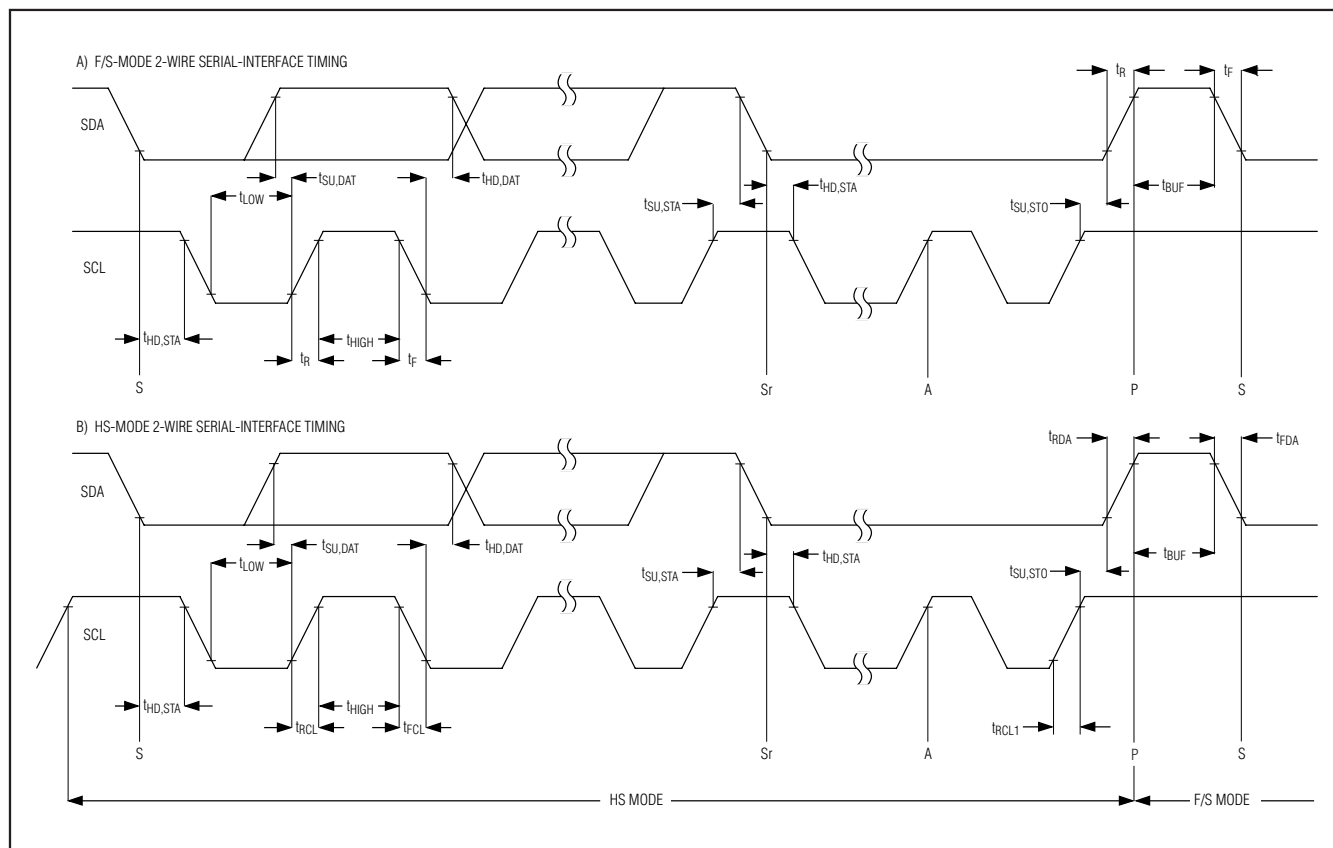

Figure 1. 2-Wire Serial-Interface Timing
## TIMING CHARACTERISTICS (Figure 1) (continued)
**Note 11:** A master device must provide a data hold time for SDA (referred to VIL of SCL) to bridge the undefined region of SCL's falling edge (see Figure 1).
operate in high-speed mode (HS mode) to achieve conversion rates up to 94.4ksps. Figure 1 shows the bus timing for the MAX11644/MAX11645's 2-wire interface.